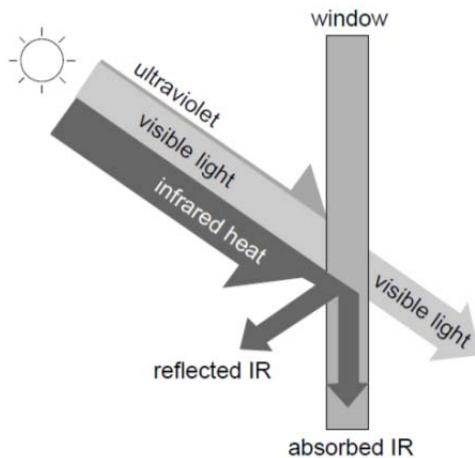

Figure 18: An ideally spectrally selected glazing admits only the part of the sun's energy that is useful for daylighting.
- **Ultraviolet Transmittance** indicates the percentage of ultraviolet radiation (a small portion of the sun's energy) striking the glazing that passes through. Ultraviolet radiation (UV) is responsible for sunburn of people and plants, and it contributes to fabric fading and damage to artwork. Many energy-efficient glazings also help reduce UV transmission.
- **Spectral Selectivity** refers to the ability of a glazing material to respond differently to different wavelengths of solar energy; in other words, to admit visible light while rejecting unwanted invisible infrared heat (Figure 18). Newer products on the market have achieved this characteristic, permitting much clearer glass than previously available for solar control glazings. A glazing with a relatively high visible transmittance and a low solar heat gain coefficient roughly indicates that a glazing is selective. Spectrally selective glazings use special absorbing tints or coatings, and are typically either neutral in color or have a blue or blue-green appearance.